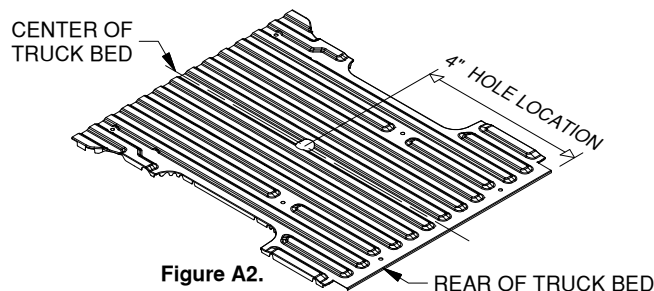

Figure A2.
5. **Mark the 4" hole location.** In most installations a dimple in the bed will be used to drill the 4" hole. If the dimple is hard to see due to a spray in bed liner it can be located under the truck bed. If the dimple cannot be found, the 4" hole location can be located manually. Using a tape measure hooked over the rear edge of the bed (at tailgate end), measure the location for the hole as shown in Figure A2. Next, locate the center of the bed by measuring the distance between the wheel wells and dividing by two. The center of the hole will be at the intersection of the center of the bed and the first distance measured.